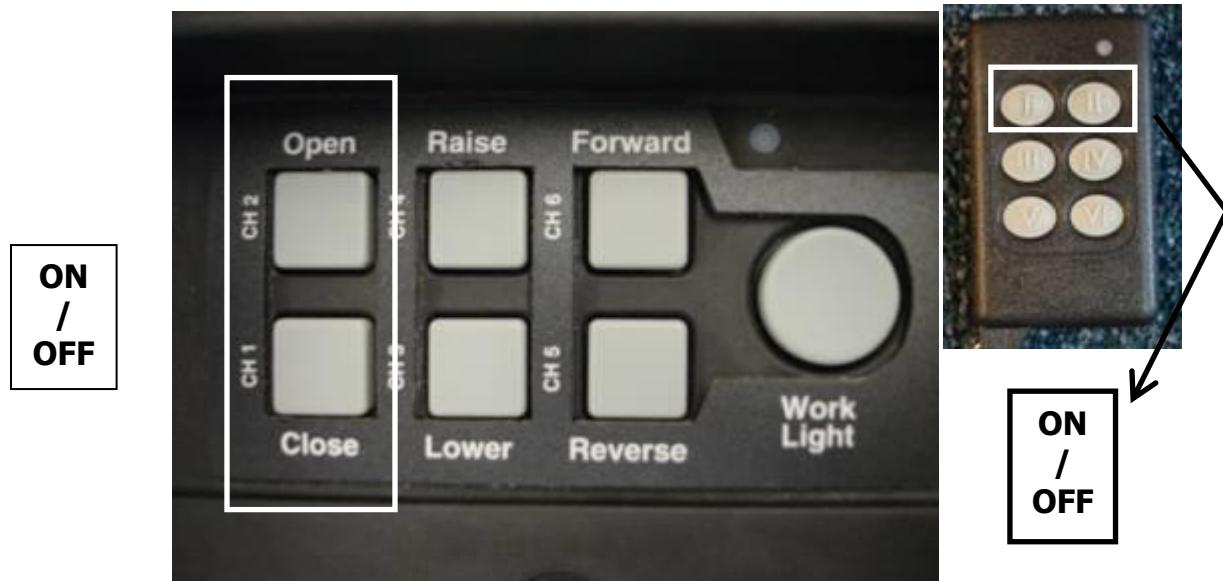

Figure 10
- 1) On all systems with remote control operation you must turn on the control box. To activate (power up or down) the control box you must press and hold buttons one and two on the control box or the key fob (see Fig. 10). Non remote control systems are always active.